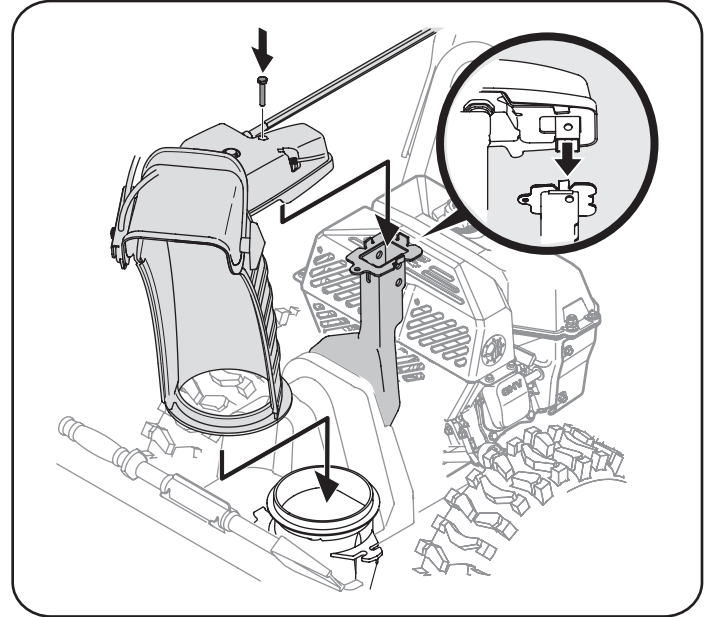
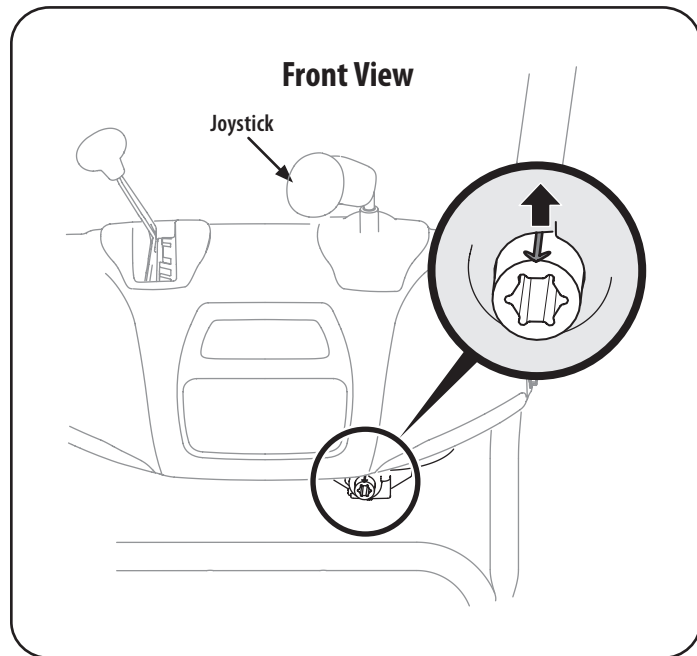

Figure 6
Figure 8
5. Place chute onto chute base and ensure chute control rod is positioned under handle panel. Install hex screw removed in Step 2 but do not secure with wing nut at this time. See Figure 6.
7. Rotate the joystick to the one o'clock position so the silver indicator arrow on the input shaft below the control panel points upward. See Figure 8.
NOTE: The joystick will be angled slightly to the right. See Figure 6 & Figure 8.